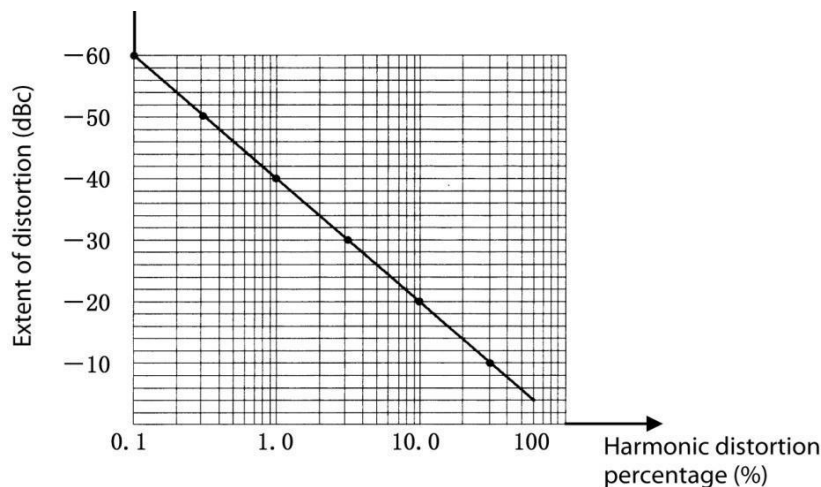

Fig. 4.20 Harmonic distortion amplitude percentage transformation diagram
The fundamental wave and the second harmonic as shown in the figure has an amplitude difference of about -60 dB, or a harmonic distortion of 0.1% (see Fig. 4.20).
- Use the relation shown in Fig. 4.20 to convert distortion percentage between the second harmonic and the fundamental wave. The unit can be changed again to volt in order to read the voltage ratio of two signals.